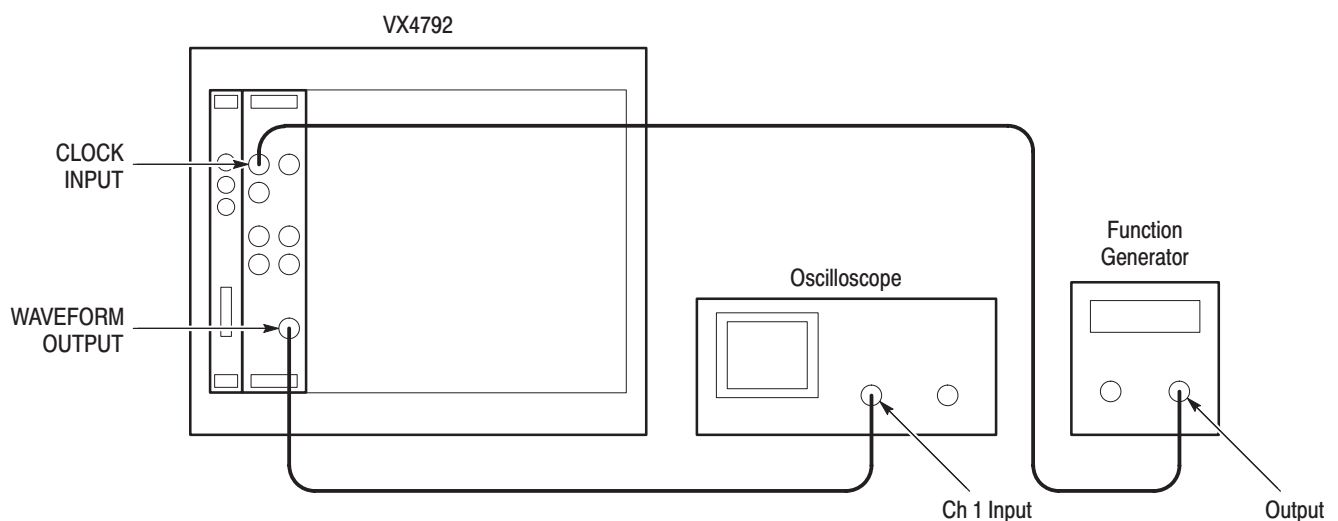

Figure F-18: External CLOCK INPUT Initial Test Setup
1. *Install test setup and set test equipment controls (see Figure F-18):*